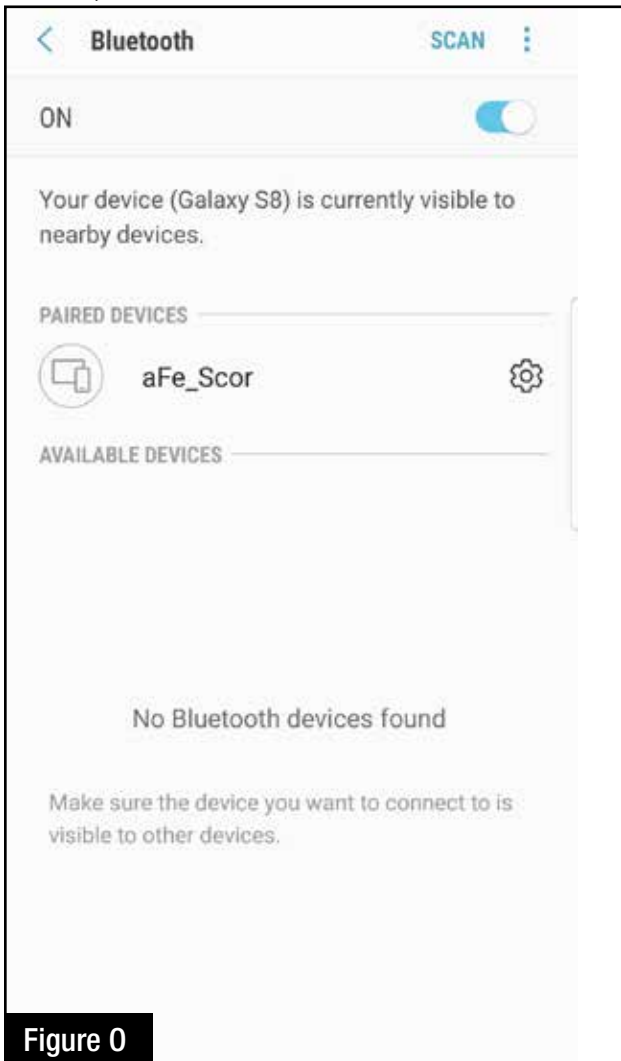

Figure 0
**Refer to Figure 0 (app connection- Android).**